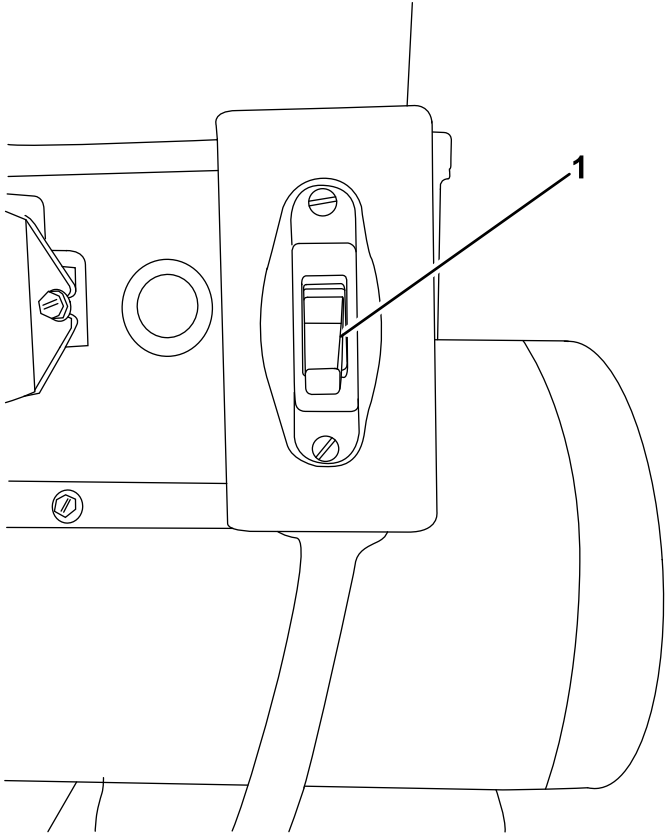

Figure 12
The ON/OFF switch (Figure 12) allows the operator of the machine to start and stop the motor. This switch is located on the front of the motor. It is marked (ON) and (OFF). Rotate the ON/OFF switch to the ON position to start and run the motor. Rotate the ON/OFF switch to the OFF position to stop the motor.